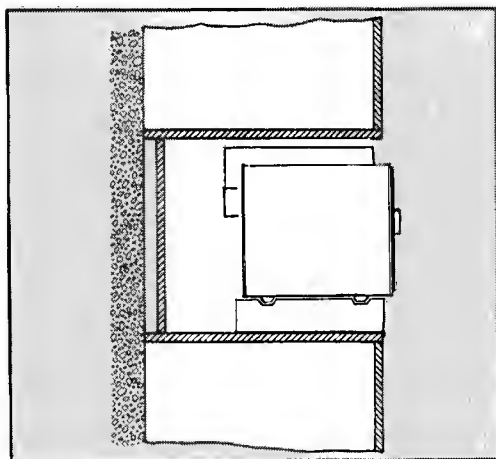

Fig. 8
3. Place the oven on the runners and push it completely towards the back. Be sure that the front feet are securely located as in Fig. 8.